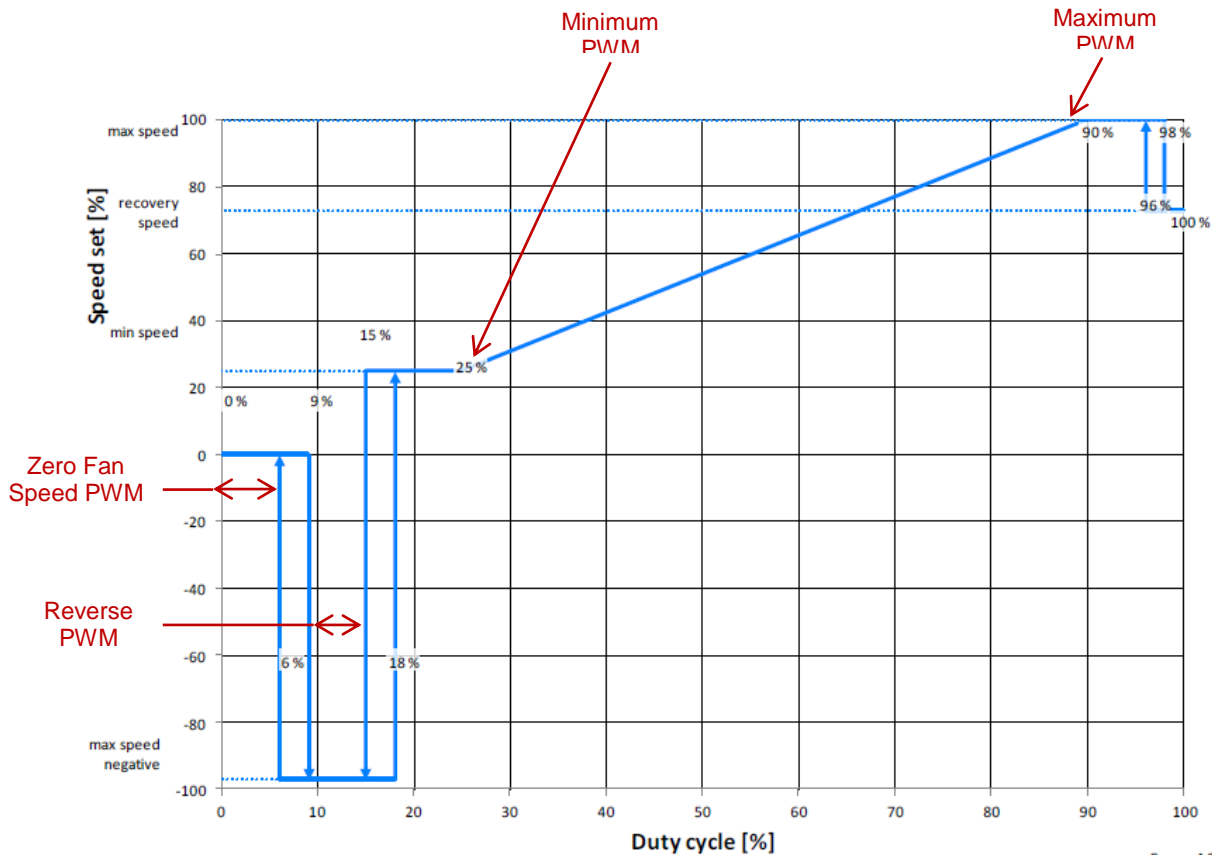

Figure 24
- **Zero Fan Speed PWM** – the PWM % that causes the fan(s) to stop, see Figure 24.
- **Maximum PWM** – the PWM % that causes the fan(s) to run at maximum RPM, see Figure 24.
- **Minimum PWM** – the PWM % that causes the fan(s) to run at minimum RPM, see Figure 24.
- **Reverse PWM** – the PWM % that causes the fan(s) to run in Reverse, see Figure 24.